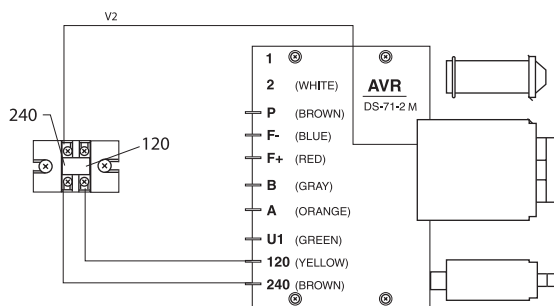

Figure 22: Control Terminal Board, 240 Volt Output
- 240 volt output can be selected by connecting the terminals of the control terminal board to 240 (Figure 22).